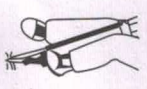

Fig. 2
- (2) Adjust the tripod roughly horizontal, fix it to ground (Fig. 2).